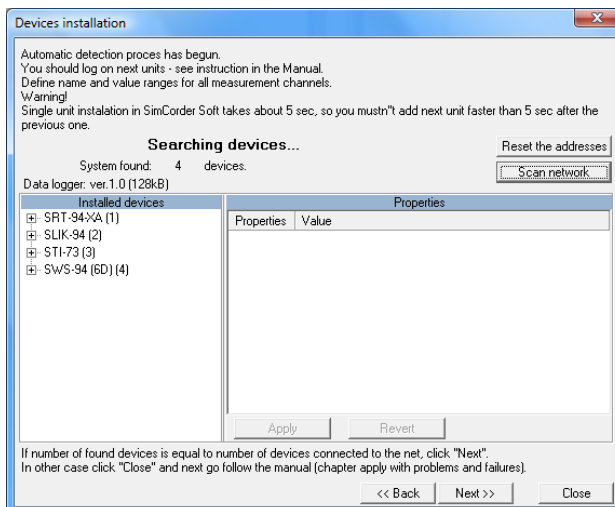

Figure 2.3. Automatic device detection mode
- After defining the communications port and baud rate, go to device detection screen (Figure 2.3) by clicking on the **[Next>>]** button.
The list shown on the figure (Figure 2.3)) contains all detected devices. Date and time of installation allows identification of the devices (can be useful while settings of devices' names). In addition this screen informs that Data logger has been detected. Such informations can be confirmation of correct port selection.
After initial configuration of all the devices connected to the network, button **[Scan network]** (Figure 2.3) should be pressed on the PC screen to run network scanning. Software will scan the network, detect connected (and properly preconfigured) devices and create list of devices.